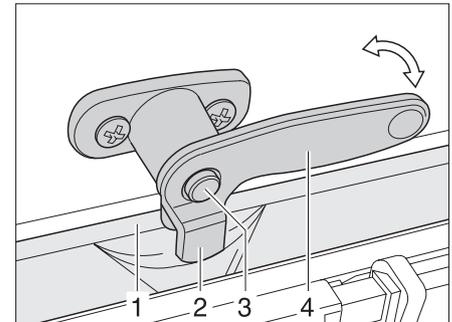

Fig. 27 Catch lever with safety knob in "Continuous ventilation" position
- ▶ If it exists, press the safety knob (Fig. 27,3) down and hold it.